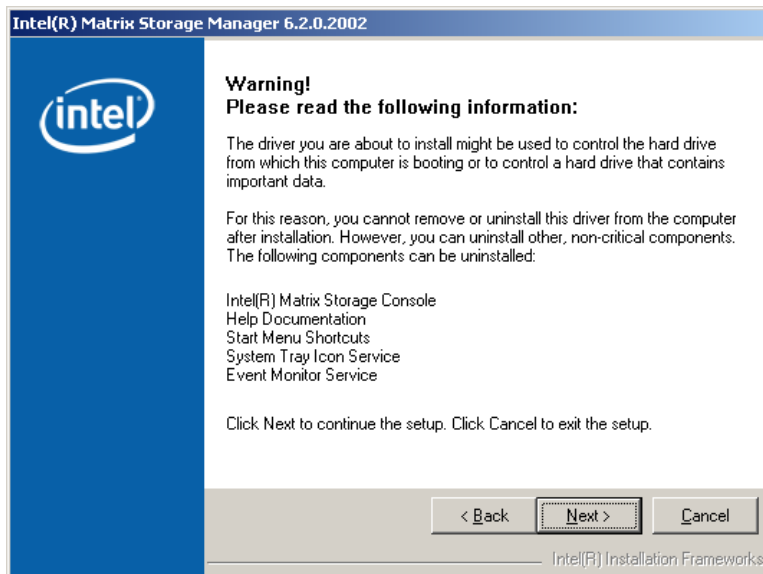

Figure 7-26: Matrix Storage Manager Warning Screen
Step 8: Click **NEXT** and a warning appears (**Figure 7-26**). Read the warning carefully and decide whether or not to continue the installation process.